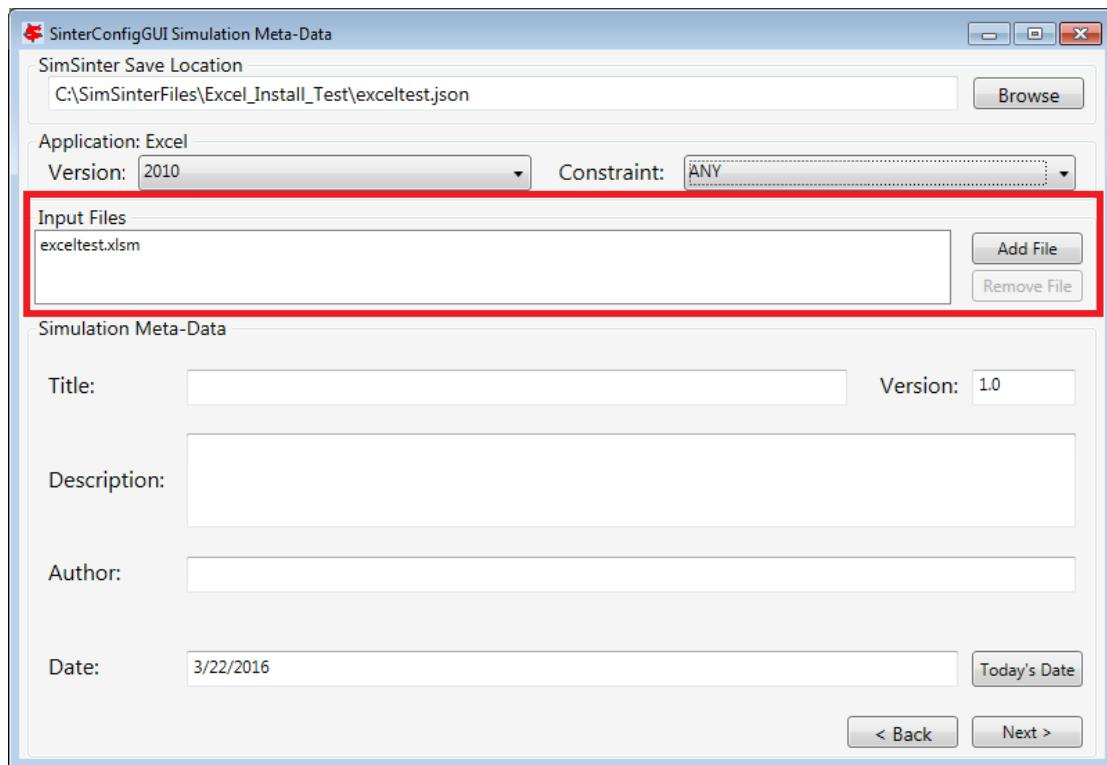

Figure 31: Additional files can be attached
2. Initially the SimSinter Configuration File Builder splash screen displays, as shown in Figure 31. Either click the “splash screen” to proceed, or wait 10 seconds for the screen to close automatically.